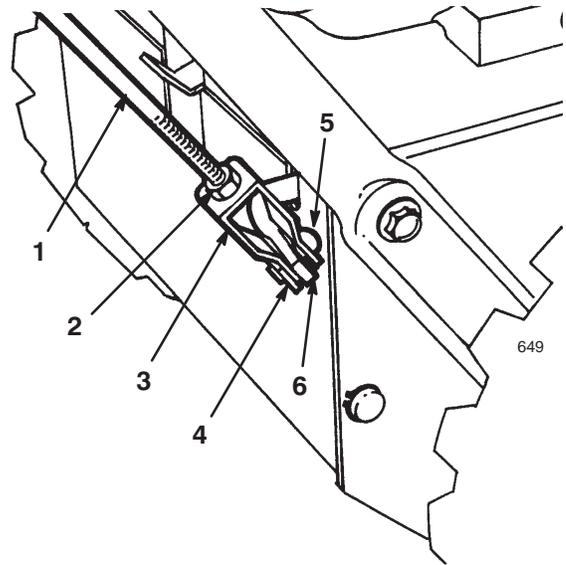

Figure 7
1. Loosen the jam nut above the clevis on the upper control rod (Fig. 7).
2. Align the holes in the clevis and the lower control rod and insert the clevis pin (Fig. 7).
- C. Thread the clevis up or down to increase or decrease the distance between the top of the handgrip and the bottom of the auger/impeller drive control lever (Fig. 7).
6. When the adjustment is correct, install the clevis pin and secure it in place with the cotter pin (Fig. 7).
7. Tighten the jam nut to secure the clevis (Fig. 7).